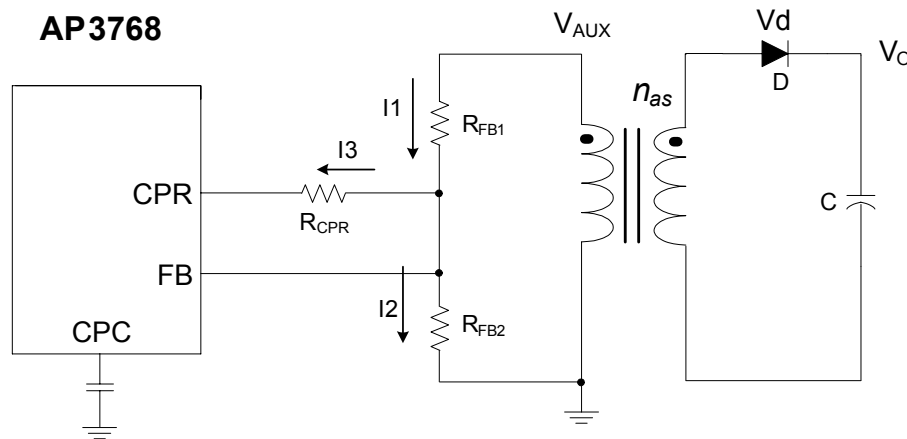

Figure 3. Output Cable Compensation Circuit
The external output cable voltage drop compensation circuitry of AP3768 is shown in Figure 3. The AP3768 senses the auxiliary winding feedback voltage at FB pin and operates in constant-voltage (CV) mode to regulate the output voltage. In CV mode, FB pin voltage  $V_{FB}$  is a constant of 4.0V.
From the resistor network shown in figure 3, the current through  $R_{FB1}$  is equal to the sum of current through  $R_{FB2}$  and  $R_{CPR}$ :
Because of the relation between  $V_O$  and  $V_{AUX}$  shown in figure 3, the output voltage can be given by: